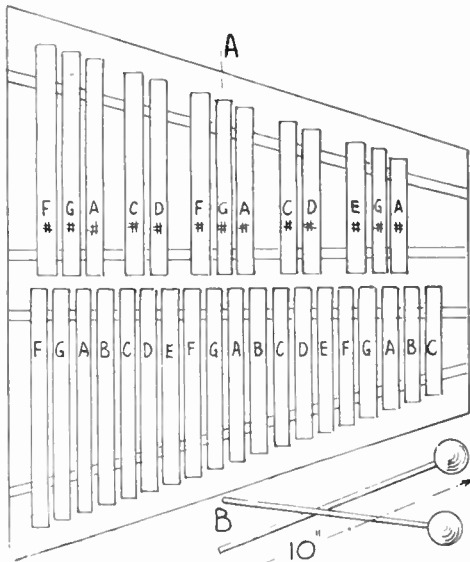

Fig. 2—Lay-out of notes and detail of bearers
The beaters should be made first, as they will be required for tuning as well as for actually playing the instrument later on. At (B) in Fig. 2 a pair of beaters is shown. Each consists simply of two hardwood balls about  $1\frac{1}{2}$  ins. in diameter, with a hole bored through for a length of stout cane which must be securely glued in. A pair of ready-made beaters could be purchased, of course, at any good class instrument shop.
The size of the sounding box upon which the instrument is mounted can now be decided. It should be just  $1\frac{1}{2}$  ins. larger all round than the space occupied by the notes when the latter are laid side by side, as in Fig. 2, with a space of  $\frac{1}{4}$  in. between them.